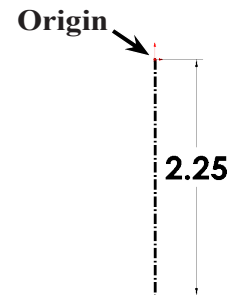
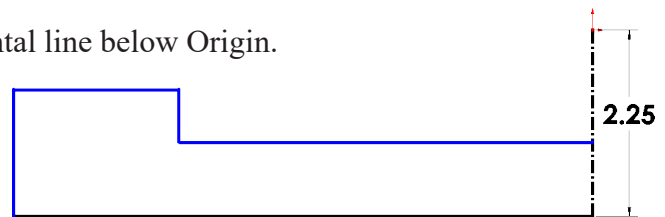

Fig. 2
Fig. 3
Step 4. Sketch **vertical centerline down** from the Origin , **Fig. 2**.
Step 5. Click **Smart Dimension**  (S) on the Sketch toolbar.
Step 6. Dimension centerline **2.25**, **Fig. 2**.
Step 7. Click **Line**  (L) on the Sketch toolbar.
Step 8. Sketch 5 lines, **Fig. 3**. Keep top horizontal line below Origin.
Step 9. Click **Smart Dimension**  (S) on the Sketch toolbar.